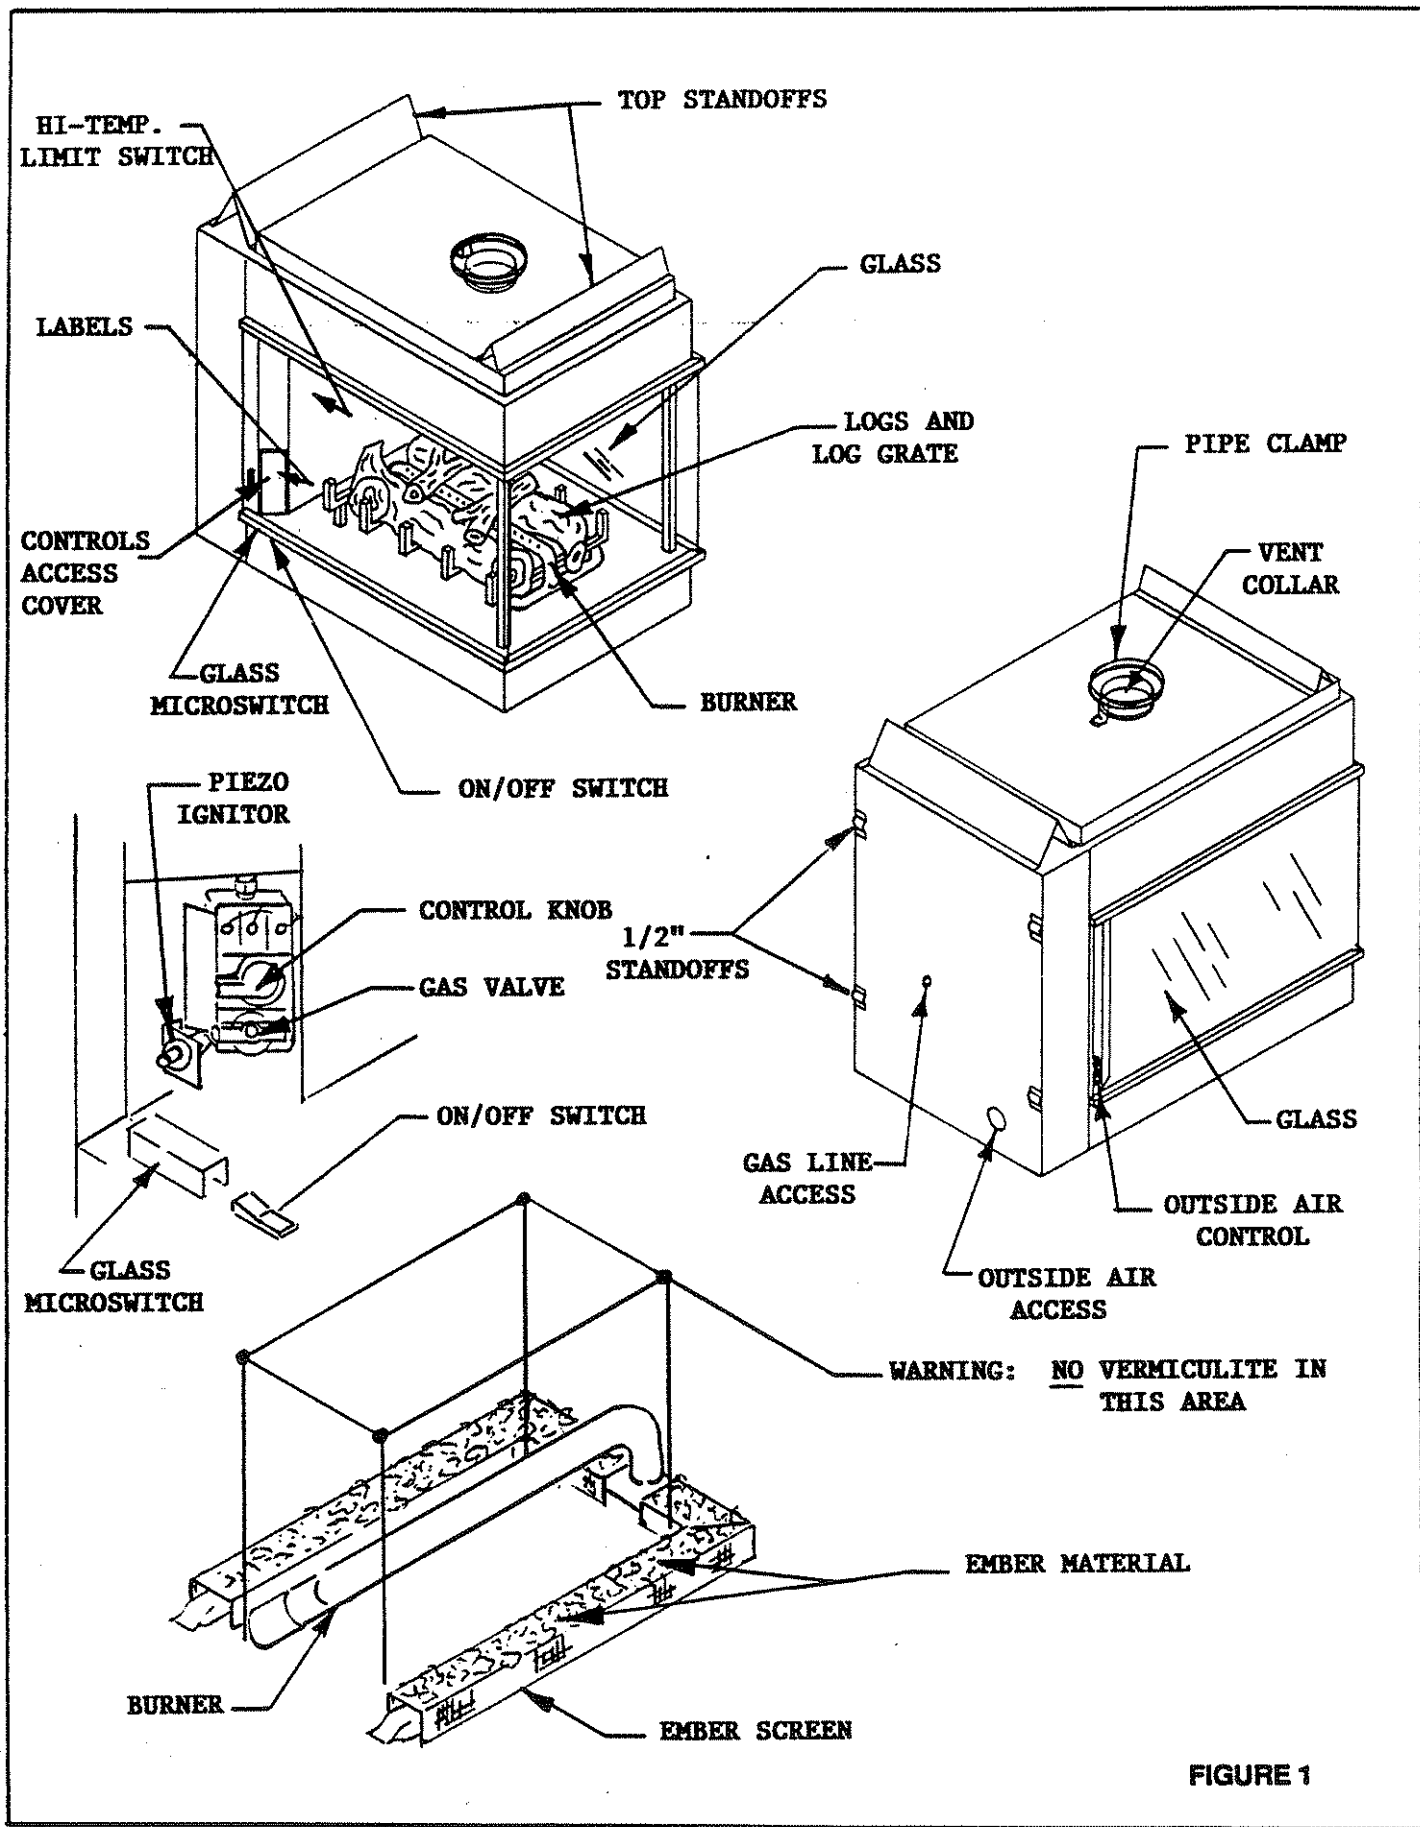

FIGURE 1
Open the bag of vermiculite and spread it evenly on the bottom of the firebox making sure not to block the air hole at the base of the burner or the air hole in the center of the base pan beneath the burner (See Figure 1).
**CAUTION:** NO VERMICULITE CAN BE PRESENT IN THE CENTER CUT-OUT AREA BETWEEN THE LOWER BURNER TUBES (SEE FIGURE 1).
Carefully spread a single layer of dime size and shape pieces of ember material (found in a separate bag) uniformly over the upper portion of the lower burner ember shield (Figure 1). The excess ember material should be used as replacement material during the annual servicing. **DO NOT COVER THE LOWER BURNER WITH VERMICULITE.**